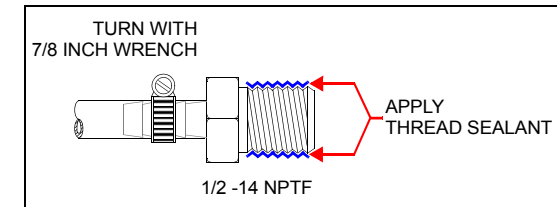

Figure 2: Water Line Connection
5. Connect the cooling water in line (3/8 FPT, see *Figure 2*).